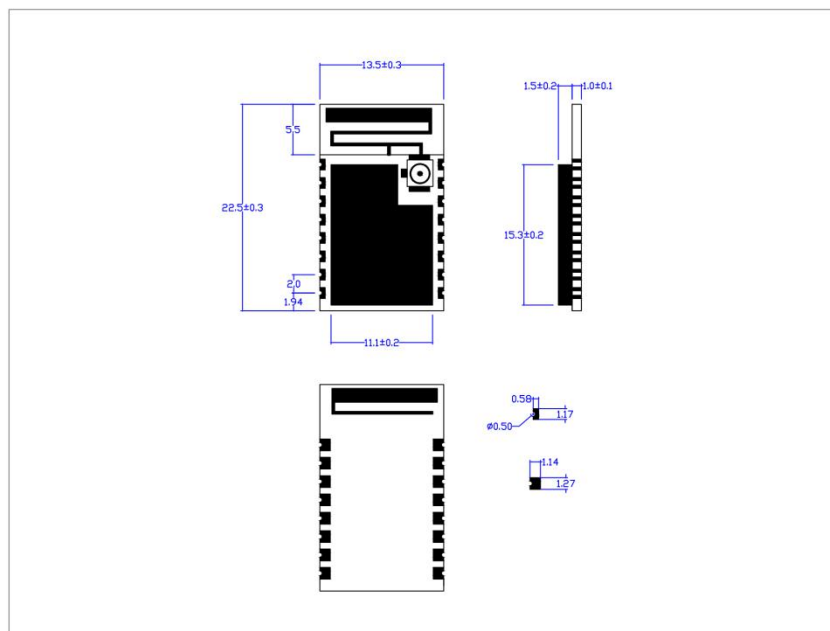

Figure 3. Physical Dimensions
- Size: Figure 3
- X-C13SM-1&X-C13SM-0 Physical Dimensions (Unit: mm),please refer to Figure 3: